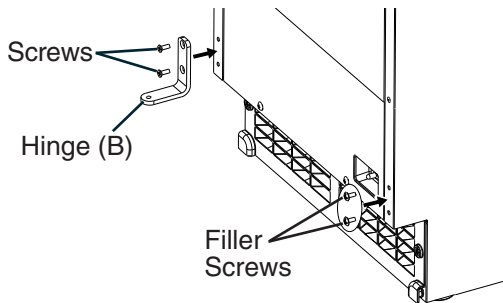

Fig. 6
d) Remove hinge (B) from the right side of the unit and the 2 filler screws from the left side. Attach the 2 filler screws to the right side and attach hinge (B) to the left side. See Fig. 6.